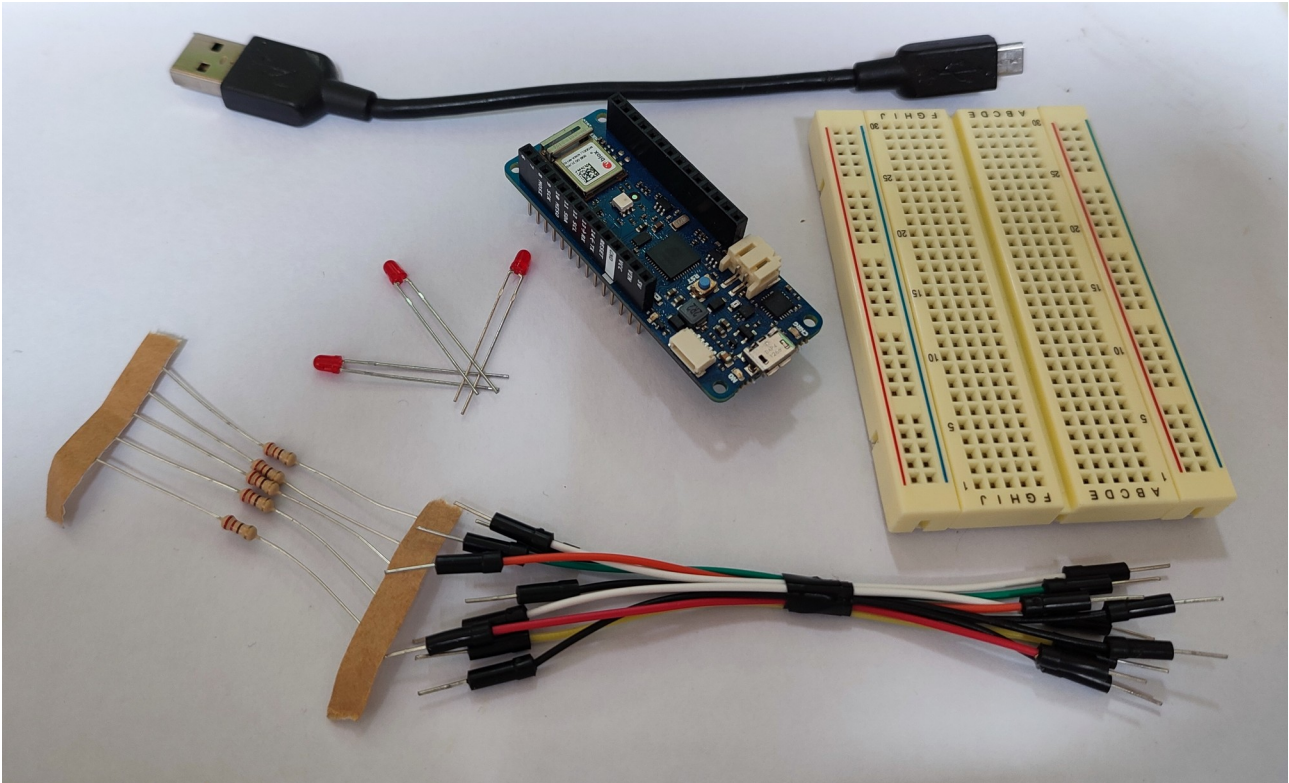

Figure 1 – The necessary equipment for this lab (don't worry if you have an LED of a different colour)
1. Check that you have all the necessary equipment (see Figure 1)!